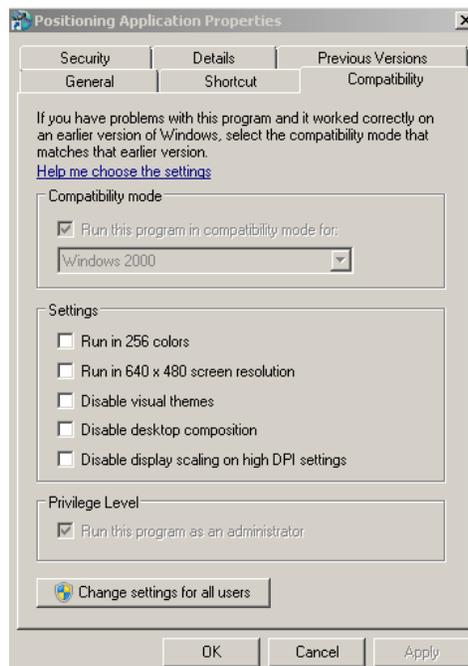

Figure 6-1: PosApp Properties – Compatibility Tab
2. Under the *Compatibility* tab, as shown in Figure 6-1, enable the **Run this program in compatibility mode for** option. Select **Windows 2000** from the drop-down menu.